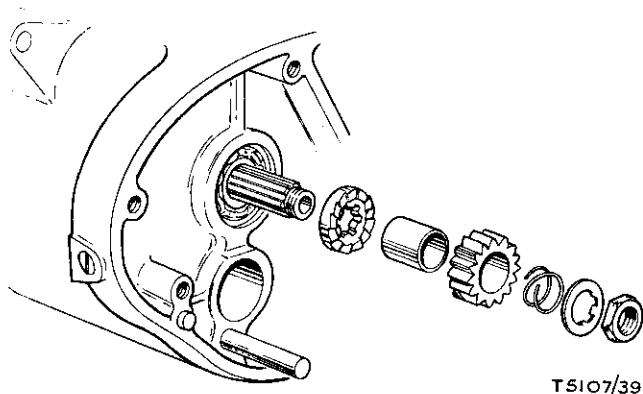

Fig 39 Kickstart ratchet
250. Insert the mainshaft (Fig 41(2)) fitted with its first gear (5), third gear (4) and spacer (B) into the cover bearing, replace the kickstart ratchet assembly (Fig 39) and secure with the fixing nut. It will be necessary to hold the mainshaft in a vice, using soft metal clamps, to tighten the nut fully.